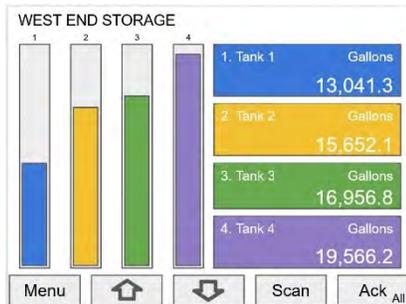

Fig 23: Typical screen view displaying 4 channels and 4 bar graphs representing the values of each channel.
- Figure 23 and 24 are shown tank level applications. Actual screens will vary according to the selected configuration.